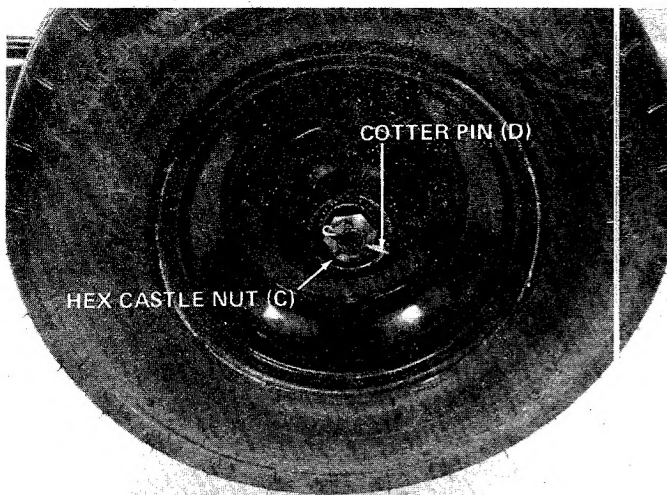

FIGURE 4.
3. Thread hex castle nut (C) on axle. Tighten castle nut until snug, then back off approximately 1/3 turn or until one of the slots on the castle nut lines up with hole in axle. Secure castle nut to axle with cotter pin (D). See figure 4.